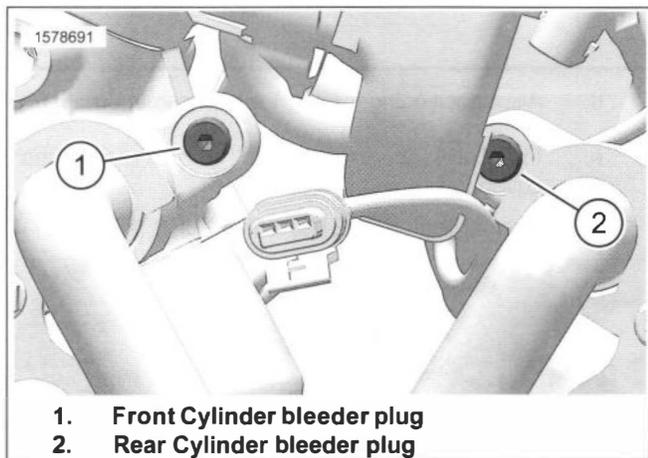

Figure 7-8. Coolant Bleeder Plugs
- b. See Figure 7-8. Remove front cylinder bleeder plug (1) allowing air to escape. Repeat until only coolant emerges. Reinstall bleeder plug as coolant starts to escape and tighten.